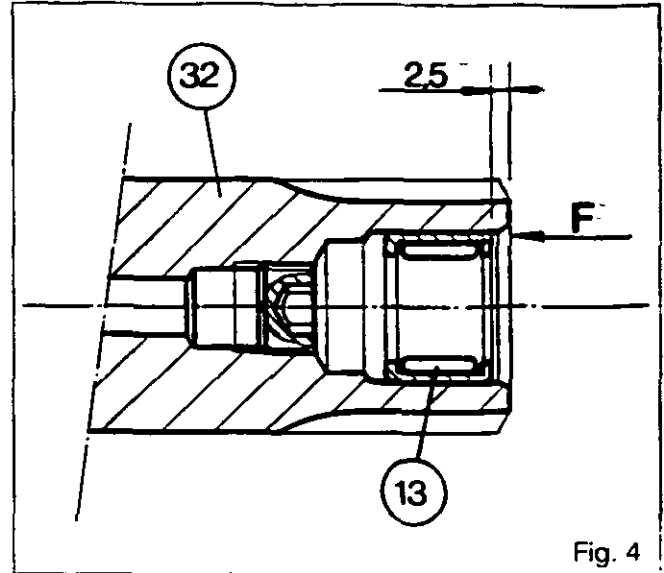
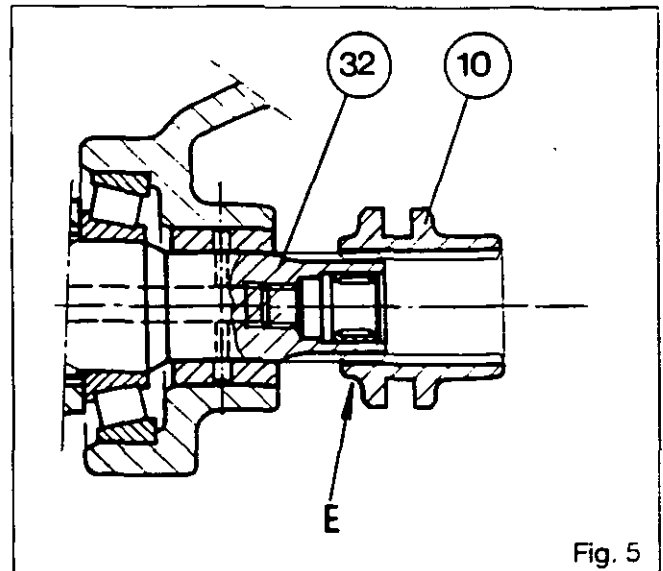

Fig. 4
Fig. 5
14. If needle bearing (13) is not fitted on shaft (32), fit it 2.5mm back from side "F" (Fig.4).
16. Place bearing cone (15) in bearing cup (14), push in shaft (32) after positioning clutch (16) and drum (33) assembly in the housing.
17. Put bearing cup (18) and adjusting shim(s) [20] coated with grease, in place.
18. Fit O-ring (21) in the housing groove.
19. Fit bearing retainer (22) with seal (24) and circlip (23). Remove the shaft splines protector.
20. On tractors with rice field version, grease and place seal (26), with the lip facing bearing retainer (22). Remove the protector.
21. Fit flange (28) leaving some play relative to the housing.
22. Tighten screw (27) coated with Loctite 241.
24. Put coupler (10) on shaft (32).
**Note: Put short shoulder "E" facing towards shaft (32)(Fig.5).**